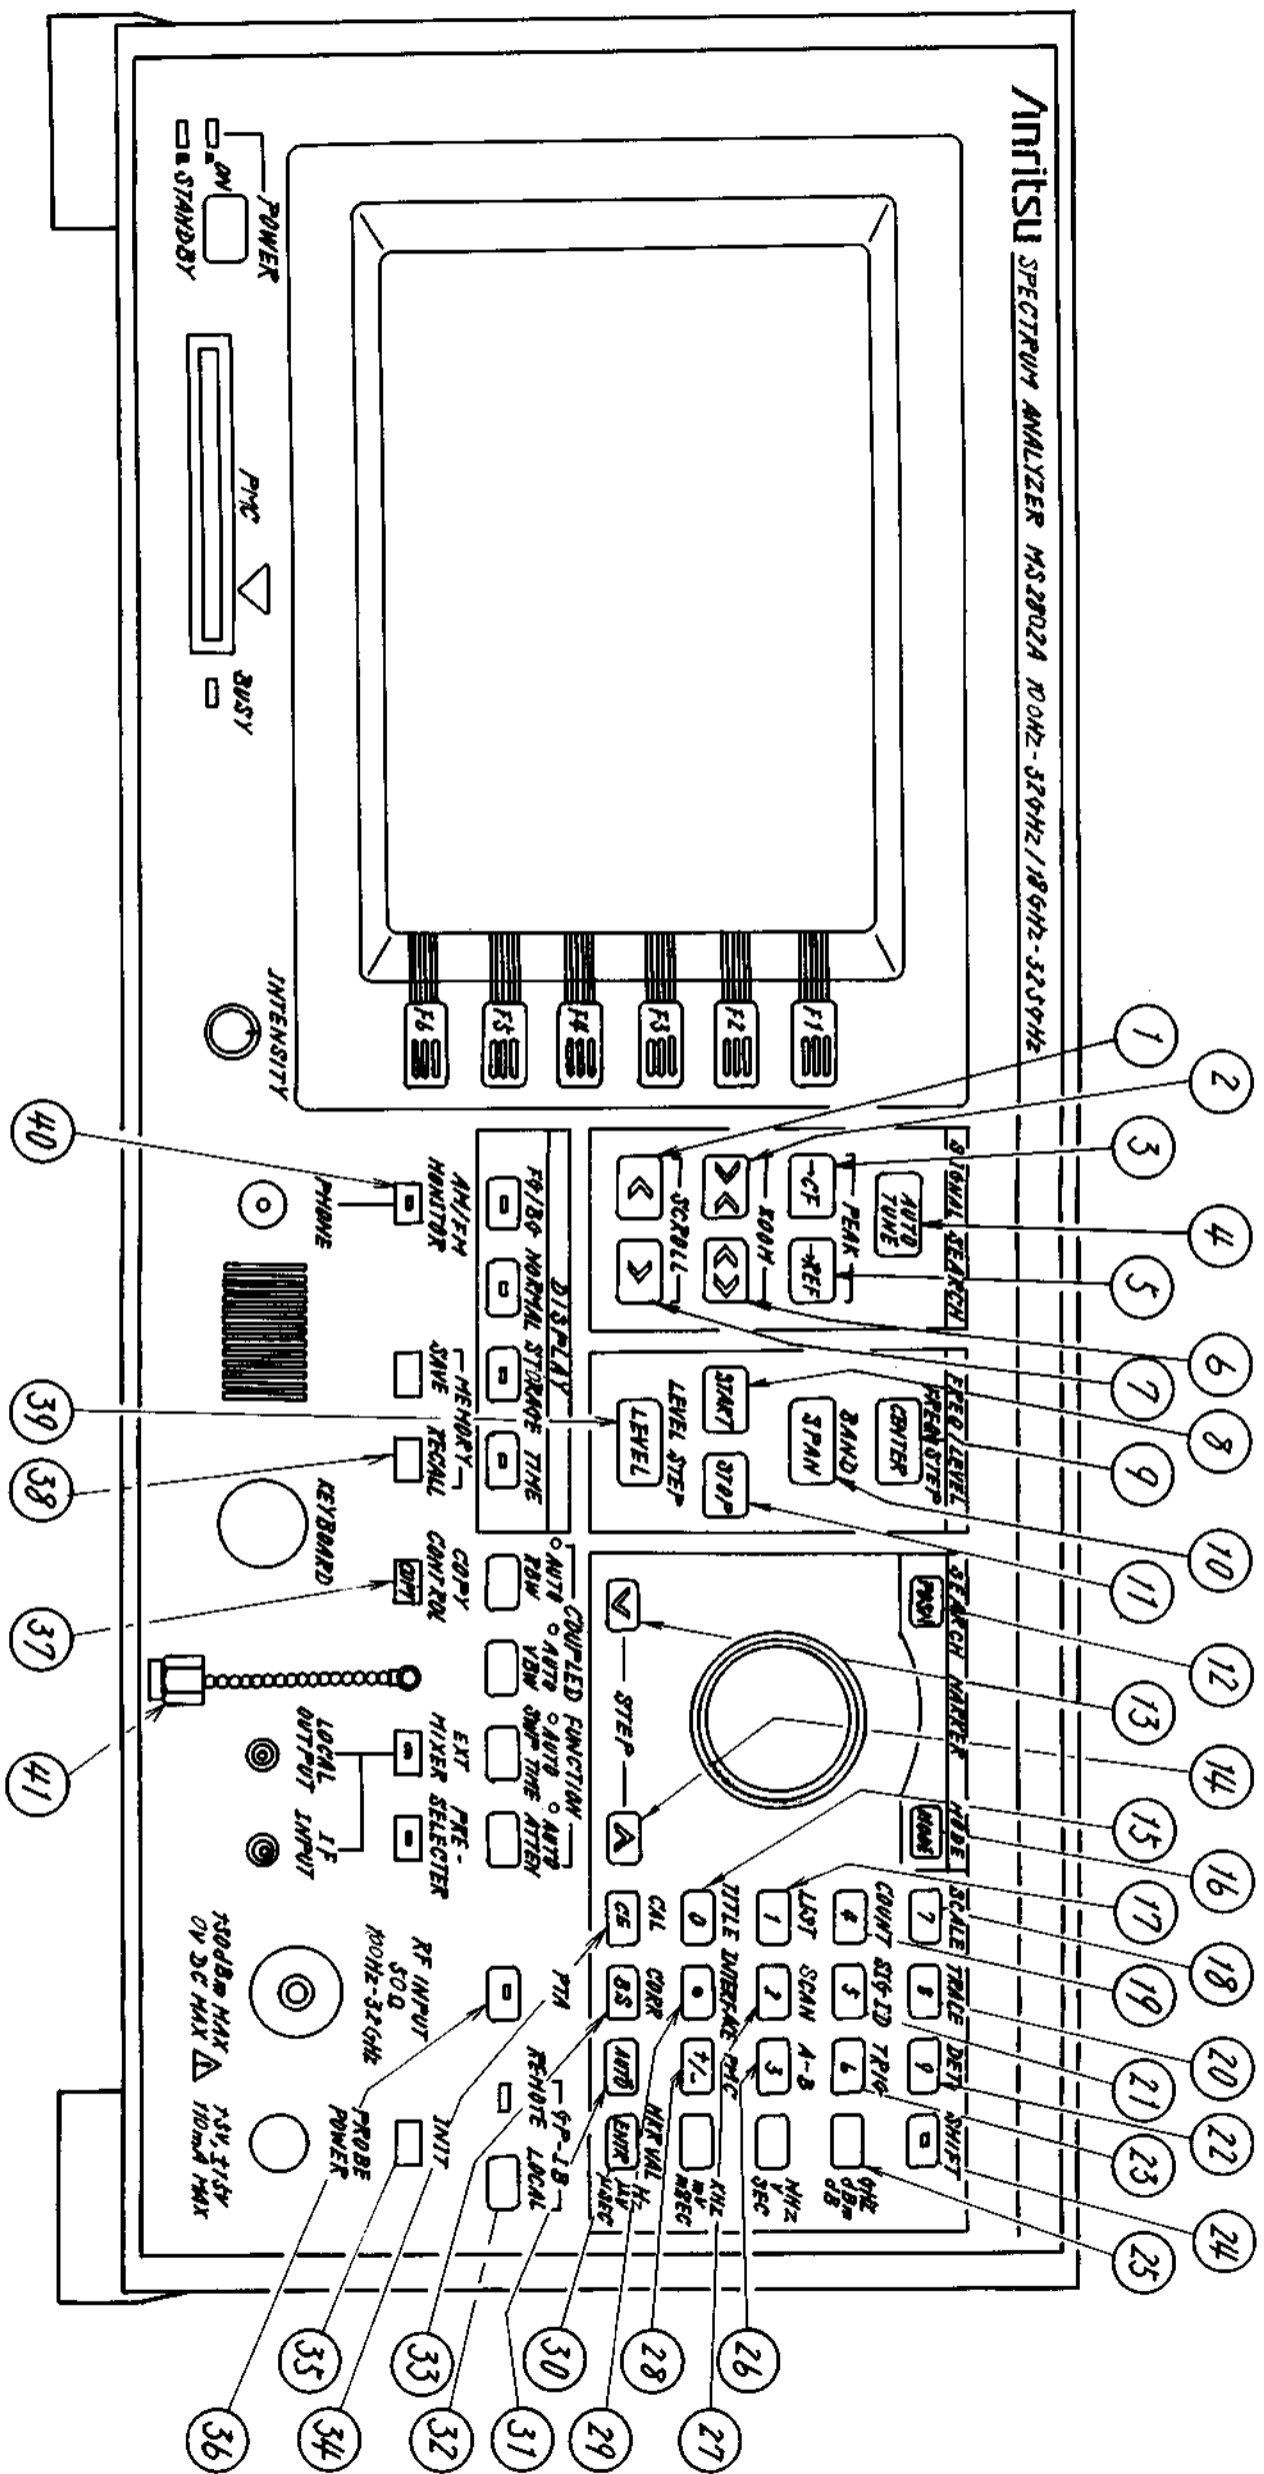

Fig. 5-2 Key Tops of the MS2802A
(1) Key top removal (Figs. 5-2 and 5-3)
To replace the key tops shown in Figs. 5-2 (MS2802A) and 5-3 (MS2702A), remove the front panel and pull off the key tops by holding them with pliers.